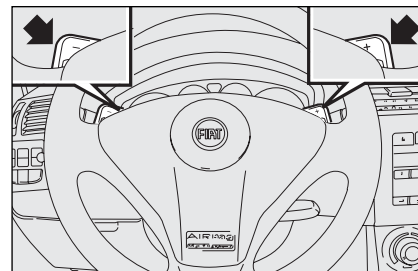

fig. 6
- the steering wheel controls **fig. 6**, which can be operated only when the car speed exceeds 5 km/h.